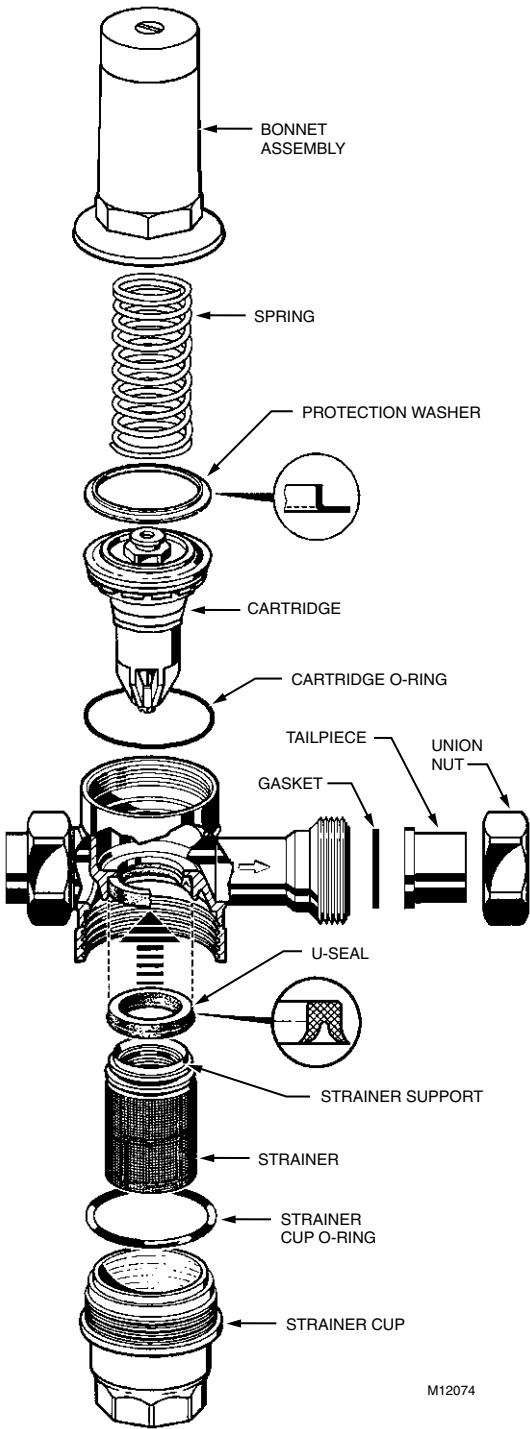

Fig. 7. Internal parts.
- 8 Replace the U-seal by placing the U-seal on the strainer support and pushing the assembly into place. The U-seal open end must face the strainer support (Fig. 7). Replace the strainer onto the strainer support.